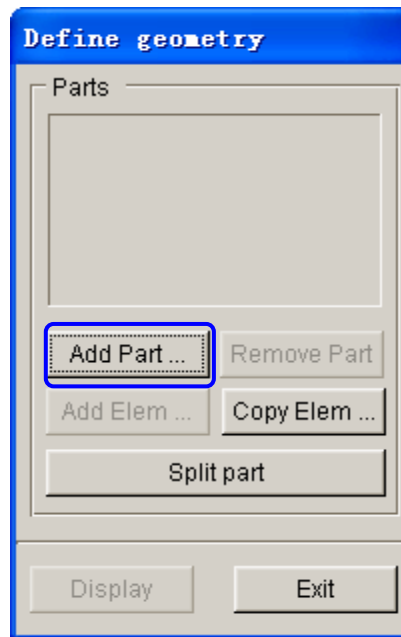

Figure 2.11 Define Geometry dialog box
3. The program will pop up the DEFINE GEOMETRY dialog box illustrated in Figure 2.11.